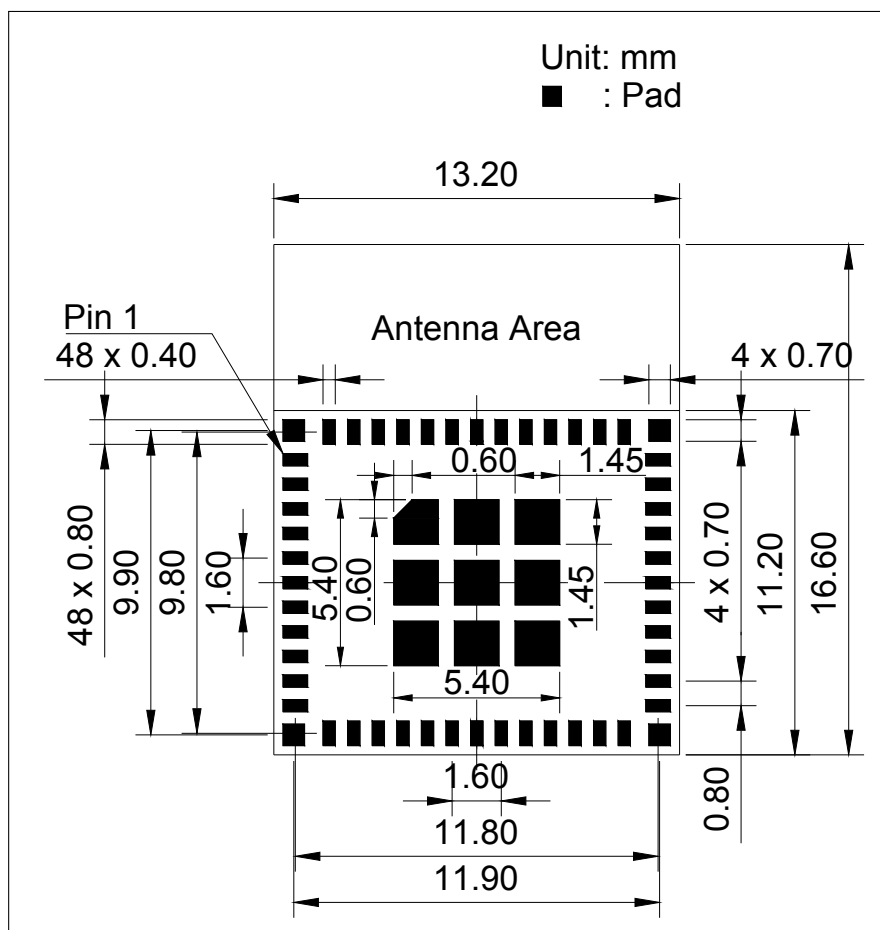

Figure 11-1. ESP32-C6-MINI-1 Recommended PCB Land Pattern
- Figures for recommended PCB land patterns with all the dimensions needed for PCB design. See Figure 11-1 *ESP32-C6-MINI-1 Recommended PCB Land Pattern* and Figure 11-2 *ESP32-C6-MINI-1U Recommended PCB Land Pattern*.
- Source files of recommended PCB land patterns to measure dimensions not covered in Figure 11-1 and Figure 11-2. You can view the source files for ESP32-C6-MINI-1 and ESP32-C6-MINI-1U with Autodesk Viewer.